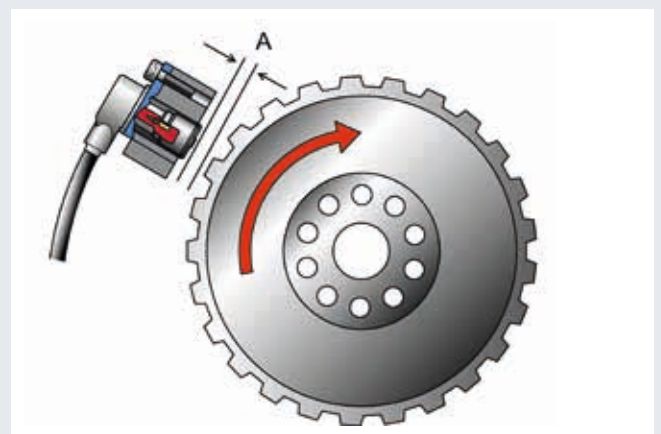

Figure 2
The frequency and amplitudes of this alternating voltage are in relation to the wheel speed. Inductive-passive sensors do not require a separate power supply from the control unit. Since the signal range for signal detection is defined by the control unit, the amplitude level must be within a specific voltage range. Gap (A) between sensor and impulse wheel is provided by way of the axle design (Figure 2).